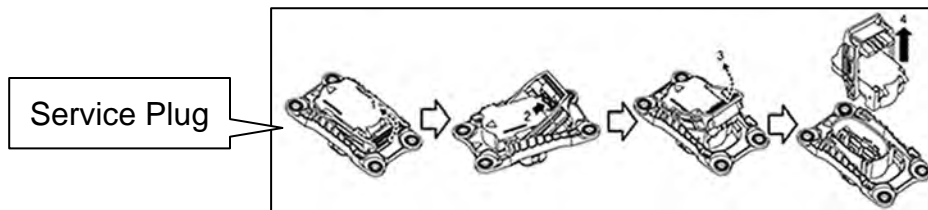

Figure 6
6. Disconnect the high voltage Service Plug (Figure 6).